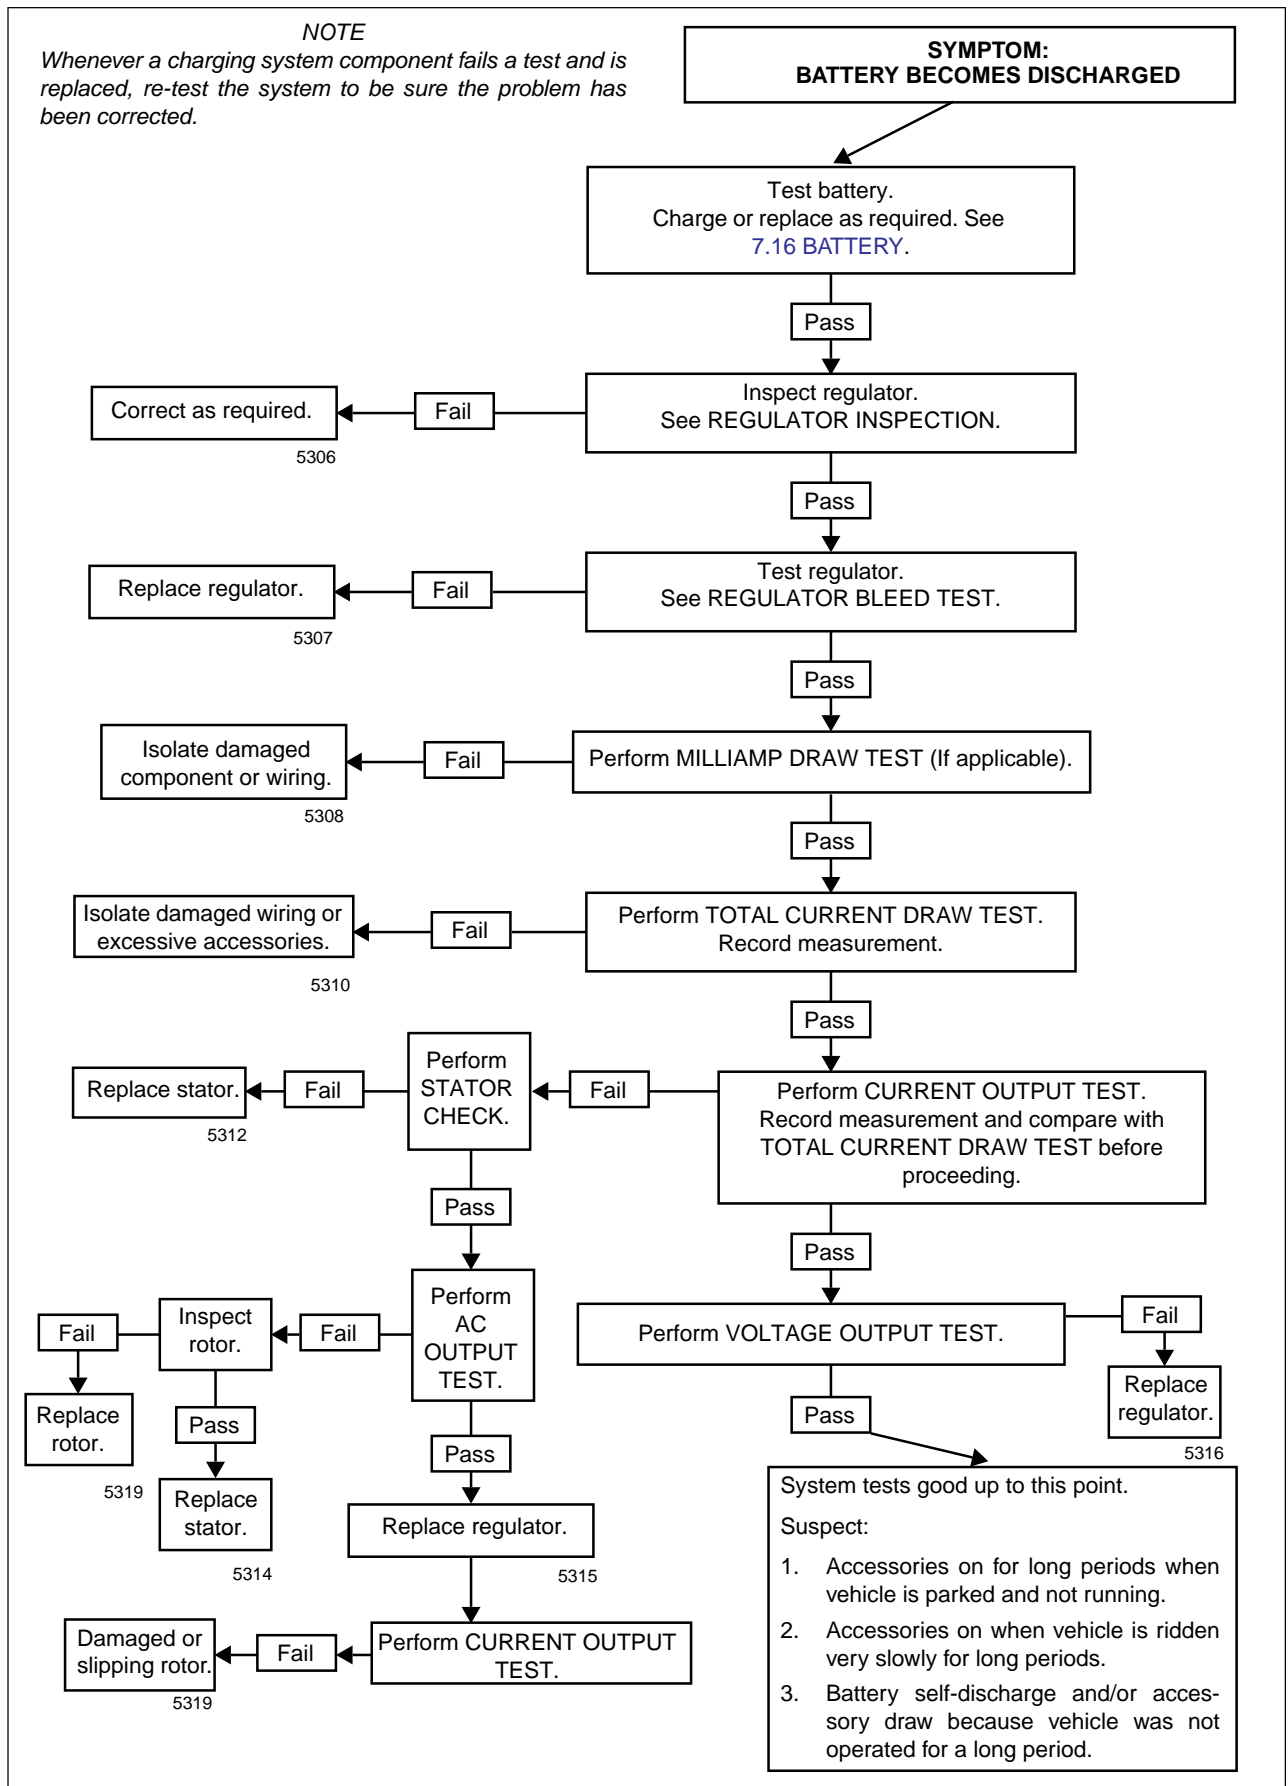

Figure 7-44. Charging System Troubleshooting
1. See Figure 7-44. Connect load tester.
1. See Figure 7-44. After removing the load, read the load tester voltage meter.
- a. If voltage to the battery is not more than 15 VDC, voltage output is within specifications. Investigate other possible problems. See Figure 7-44.